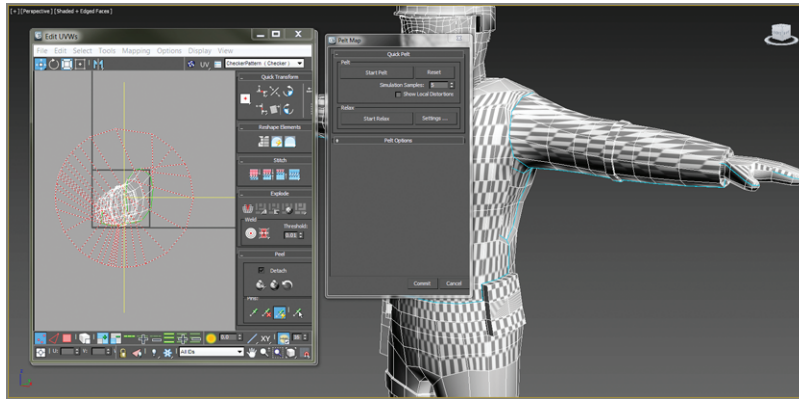

FIGURE 11.12 The Edit UVWs and Pelt Map dialog boxes showing the left arm UVs
3. In the Edit UVWs dialog box, click the View menu and toggle off Show Grid and Show Map to simplify the UV view, as shown in Figure 11.12. Before moving on, take a look at the checkerboard pattern on the arm of the soldier to recognize how it changes once you pelt.